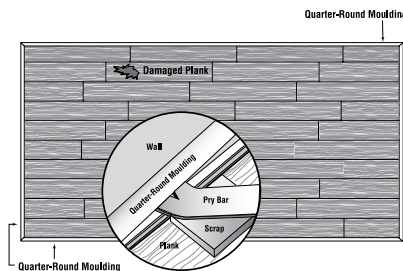

Fig. 5
1. In case of a major problem with the locking system, it is possible to replace an entire piece of the flooring. In most cases, just remove the molding from the walls nearest the damaged board (Fig. 5).